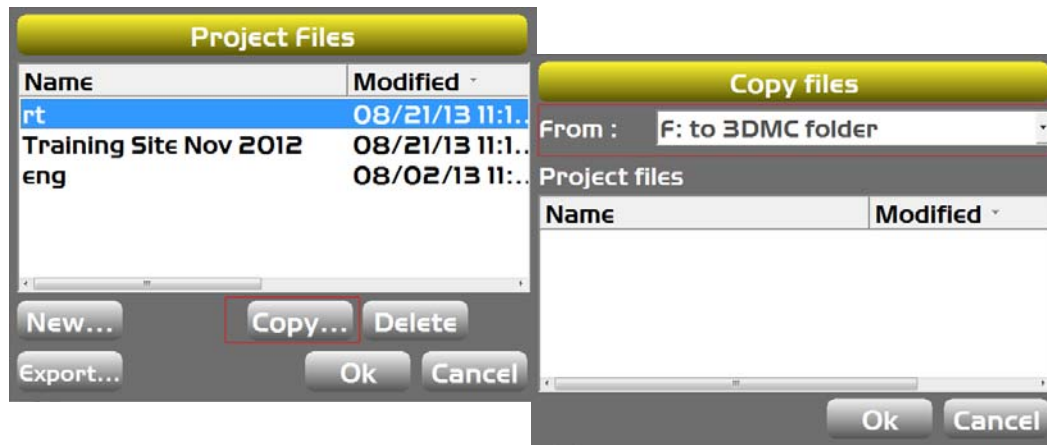

Figure 14: Copying Files From a Flash Drive
4. In the **From:** drop-down menu, select **F: to 3DMCi folder**. Note that the letter of the flash drive may be different (Figure 14 on page 19).